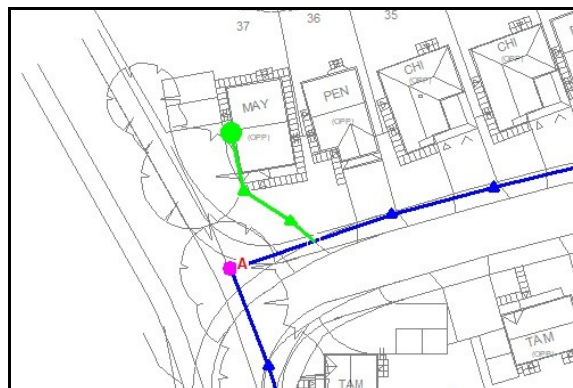

Figure 4
Enter the first customer as a polyline customer service. In this case, the service to Lot 37 will be entered as a polyline-type service, as shown in Figure 4.
- For the *Next Vertex* prompts, draw the service line by moving the mouse crosshairs to the appropriate deflection points (vertices) and the meter location, then left-click the mouse (see Figure 4). After the meter location has been entered, right-click the mouse to end the drawing process.